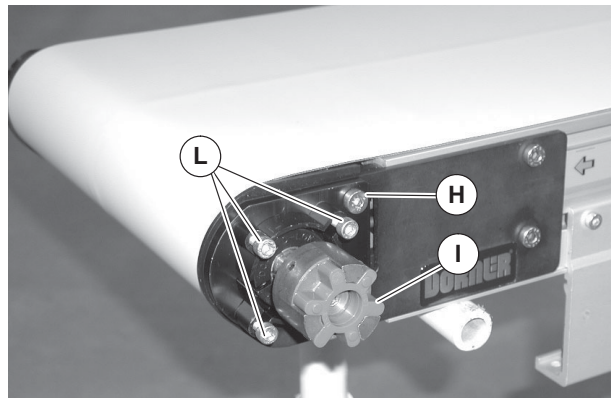

Figure 23
- b. Remove the four (4) screws (Figure 23, item L) and two (2) screws (H and I)